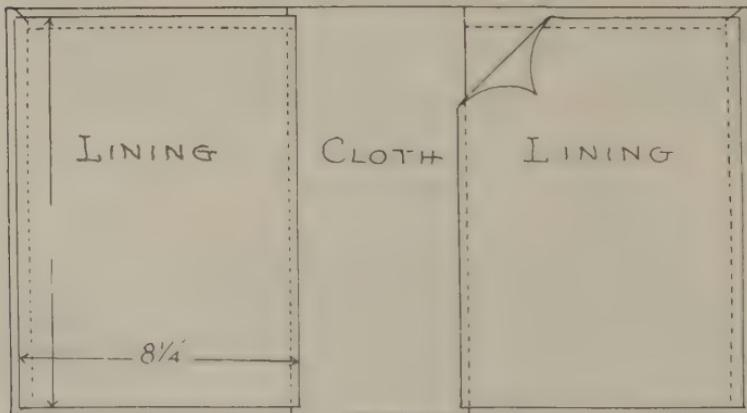

FIG. 101 - DIAGRAM OF POSITION AND MOUNTING LINING-OUT PAPERS
3. Glue-off papers one after another and mount on inside of cover boards. (Fig. 101.)